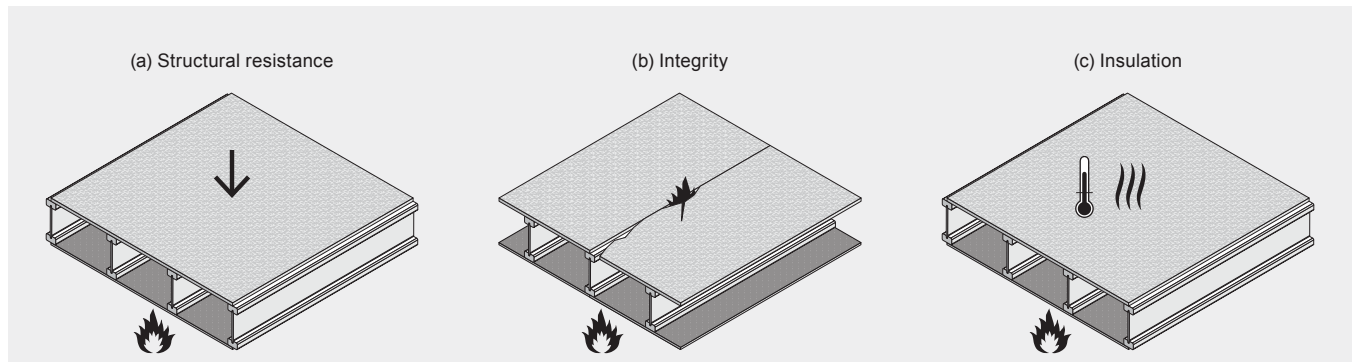

Figure 4.2 Fire resistance criteria per ASTM E119 and UL 263
1. The test specimen shall have sustained the applied load during the classification period without developing unexposed surface conditions which will ignite cotton waste. [Structural resistance (a) and integrity (b) on Figure 4.2]
2. The transmission of heat through the test specimen during the classification period shall not raise the average temperature on its unexposed surface more than 250°F above its initial temperature. [Insulation (c) on Figure 4.2]